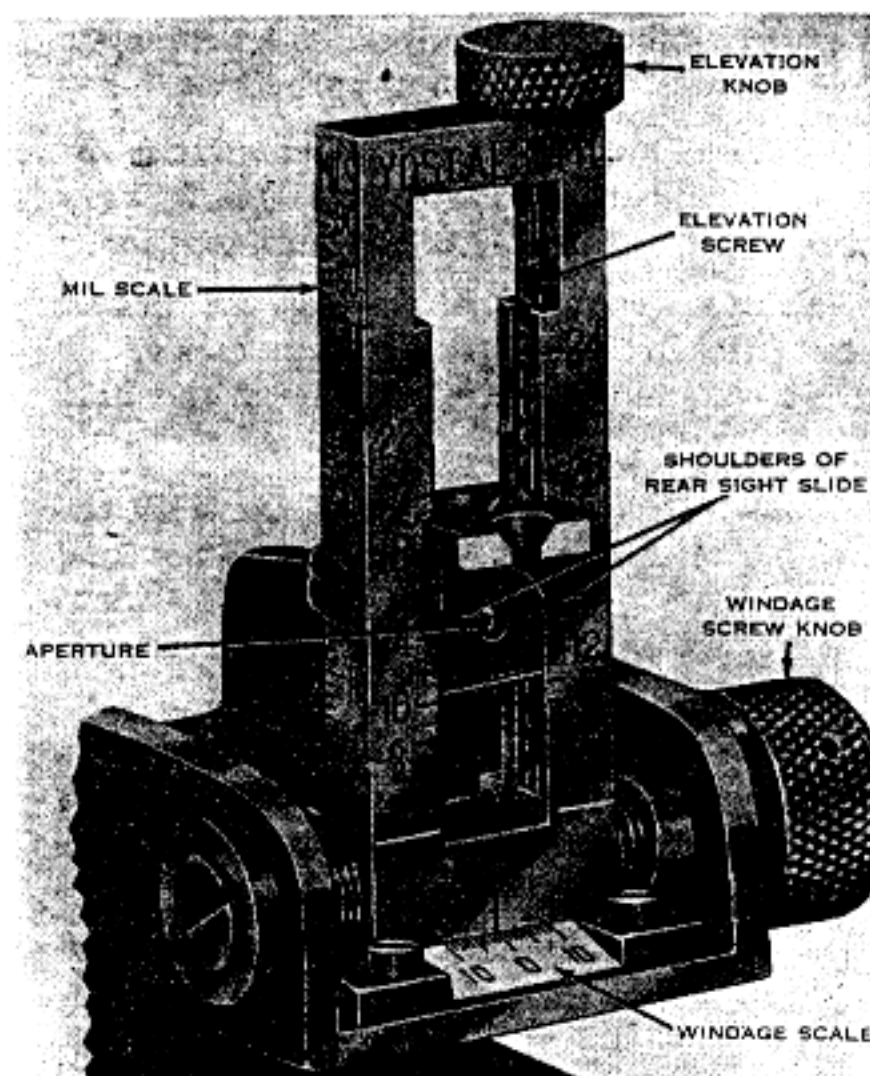

Figure 3. Rear sight, machinegun, M1919A6.
- (2) The rear sight (fig. 3) is mounted on a rear sight base and is adjustable for windage. The rear sight base is riveted to the left side of the receiver. The sight leaf is graduated for elevation in 200-yard divisions up to